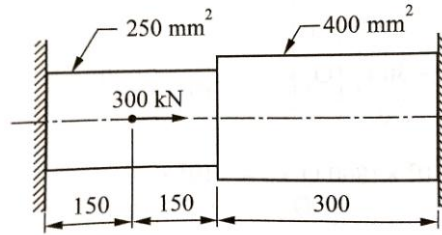

Figure: 1
- b. By using the finite element method for the loaded bar shown in Figure 1, determine the nodal displacements, element stresses and support reactions. Assume $E = 200 \times 10^9 \text{ N/mm}^2$. 07